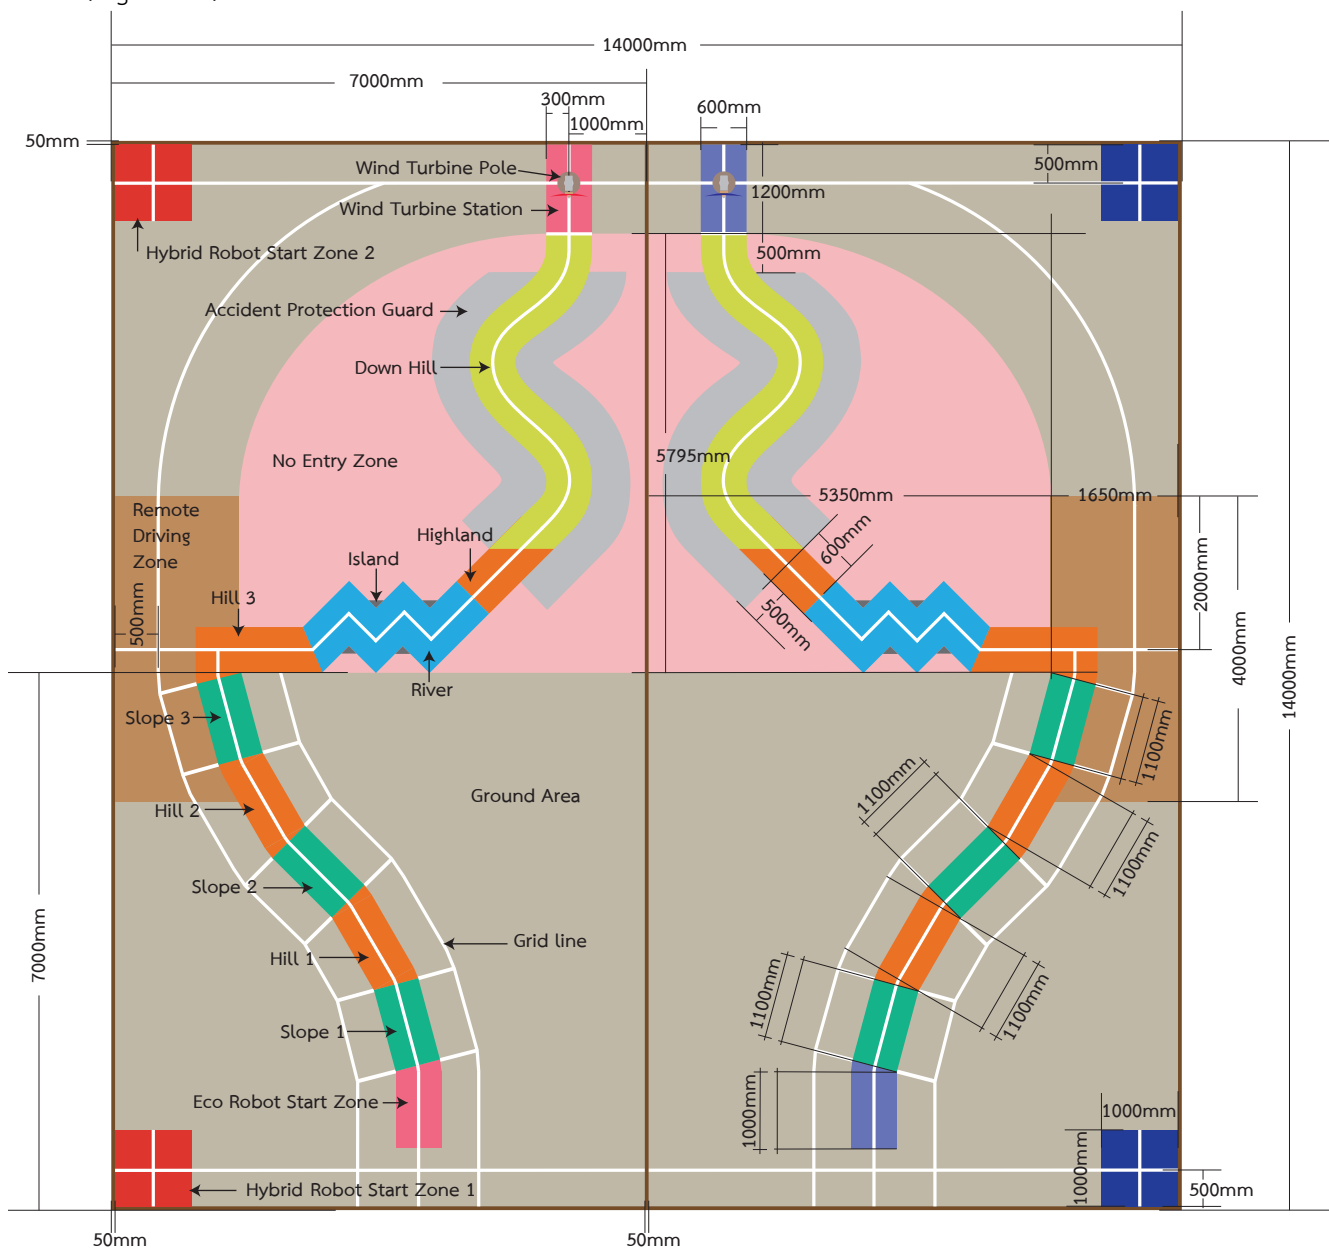

Figure 1: Game Field
10.1 The field consists of a Game Area having the dimension of 14,000 mm x 14,000 mm and surrounded by a wooden fence with the height of 100 mm and the thickness of 50 mm. The game field is divided equally for two teams by a wooden fence with the height of 100 mm and the thickness of 50 mm. The competing teams are Red and Blue teams. (Figures 1)